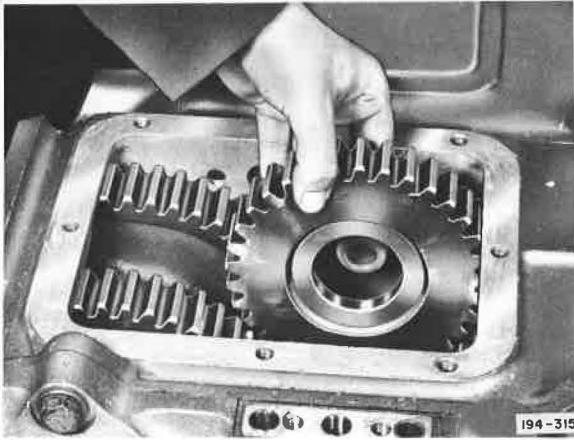

Figure 5-199. Installing Fourth Speed Gear
13. Engage reverse speed sliding gear with the reverse idler gears. Install fourth speed gear in case (clutch teeth forward) with thrust washer and engage with countershaft gears. See Figure 5-199.